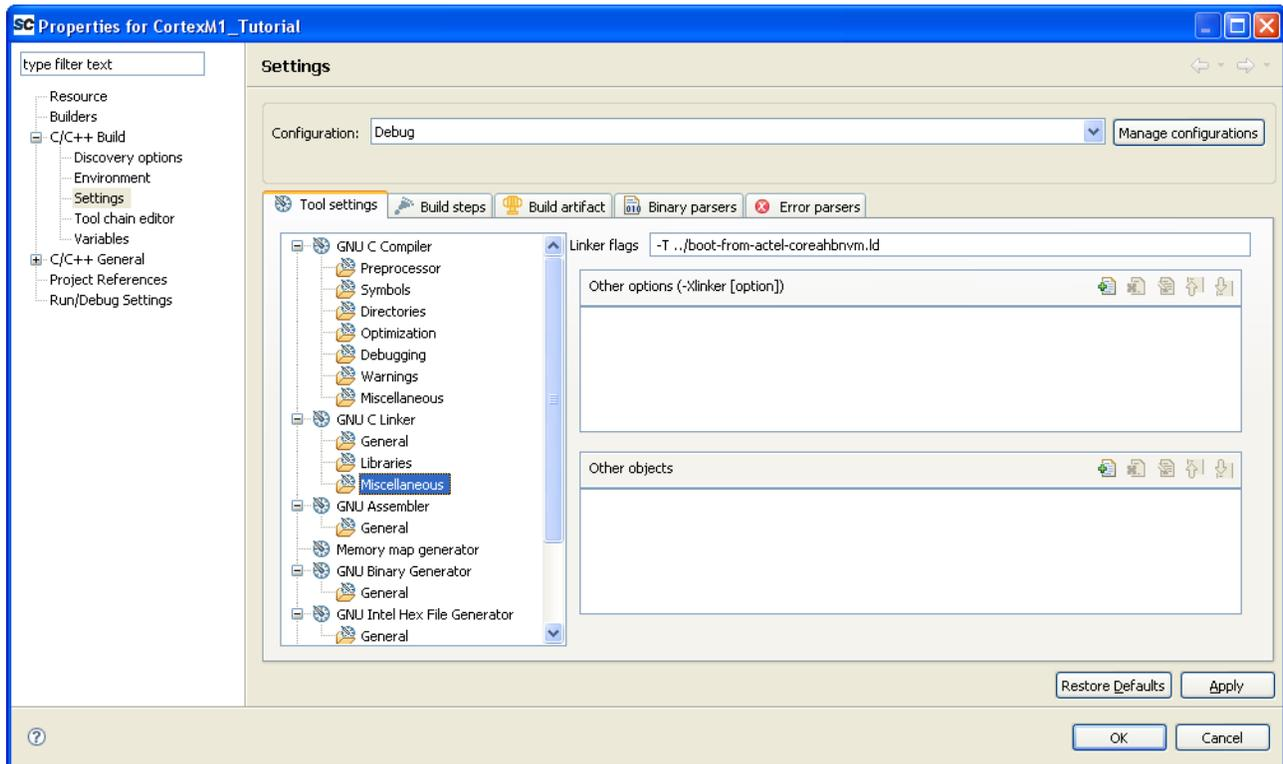

Figure 4-4 · Specifying Linker Script Location
3. Highlight **GNU C Linker > Miscellaneous** and enter `-T <path to linker script>` in the Linker flags text box, as shown in Figure 4-4.